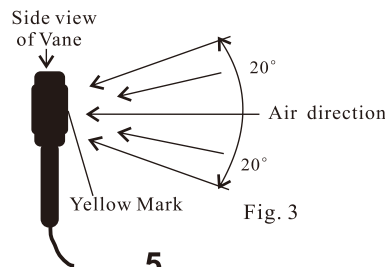

Fig. 3
c. Place the sensor in the air current with the yellow dot side of the vane facing the air flow (see Fig.3)
d. Place the vane in the air flow (Fig.3). Wait approximately 2 seconds for a stabilized Air Flow reading. The equation below is used to calculate Air Flow:
b. Place the sensor in the air current with the yellow dot side of the vane facing the air flow (see Fig.3)